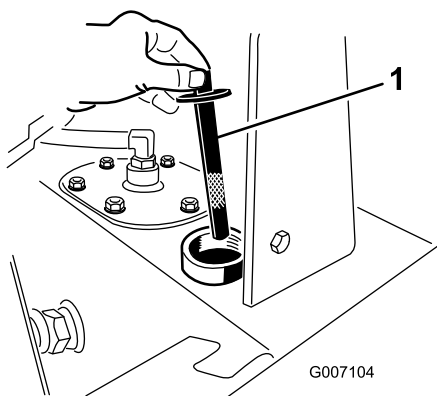

Figure 18
- Check the fluid level on the dipstick (Figure 18).